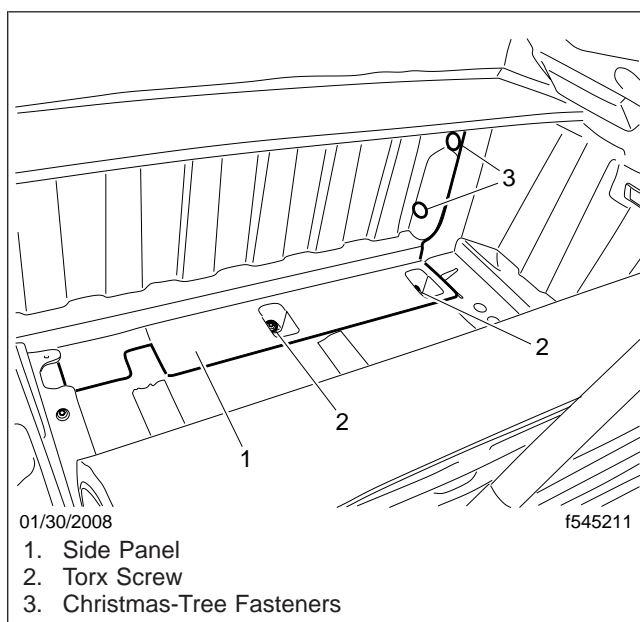

Fig. 3, Baggage Compartment Side Panel
- 2.4 Remove the two screws and the two Christmas-tree fasteners that secure the baggage compartment right-hand side panel (if equipped). Remove the side panel. See Fig. 3.